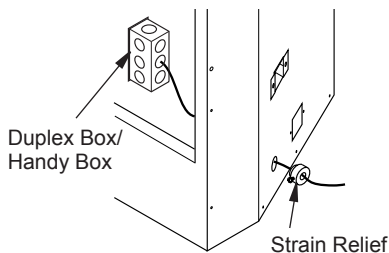

Figure 17 - Hard-Wiring Firebox
2. Route electrical cable through strain relief and handy box (see Figure 17).